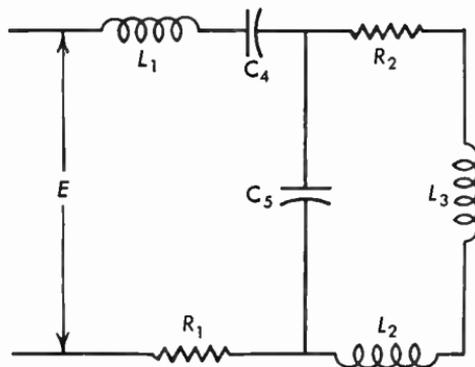

Fig. 3.21 Series-parallel network of impedance elements.
3.21 In Figure 3.21, $L_1 = 0.005$ henry, $L_2 = 0.002$ henry, $L_3 = 0.001$ henry, $R_1 = 400$ ohms, $R_2 = 200$ ohms, $C_4 = 0.1$ microfarad, $C_5 = 0.05$ microfarad, $E = 60$ volts, 6000 cycles. Find the total current I and the power factor.
In Figure 3.21, R_1 , X_1 , and X_4 are in series with the parallel branches Z_1 , Z_2 . The branch Z_1 is X_5 , and the branch Z_2 consists of R_2 , X_2 , X_3 in series. To find the impedance of the parallel combination we first find the rectangular and the polar notations of Z_1 and Z_2 .